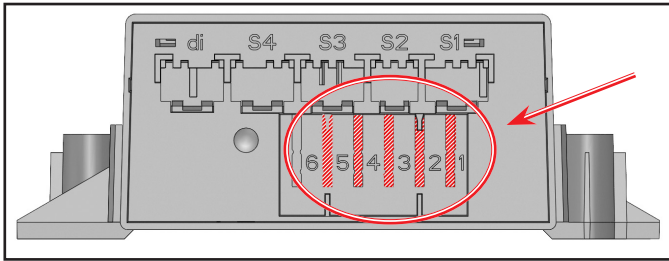

Fig. 4. Danfoss ERC terminals 1-5.
11. Connect the replacement temperature control to the appliance per the table below. See fig. 4. Reference the recorded voltage wire colors in step 4.